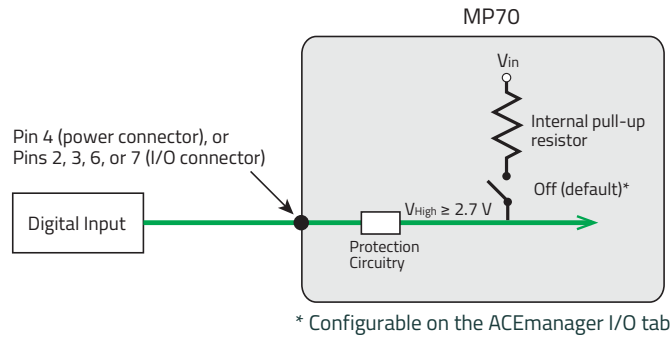

Figure 2-11: Digital Input
- Digital inputs: See Table 2-4 on page 24 and Figure 2-11 on page 25.